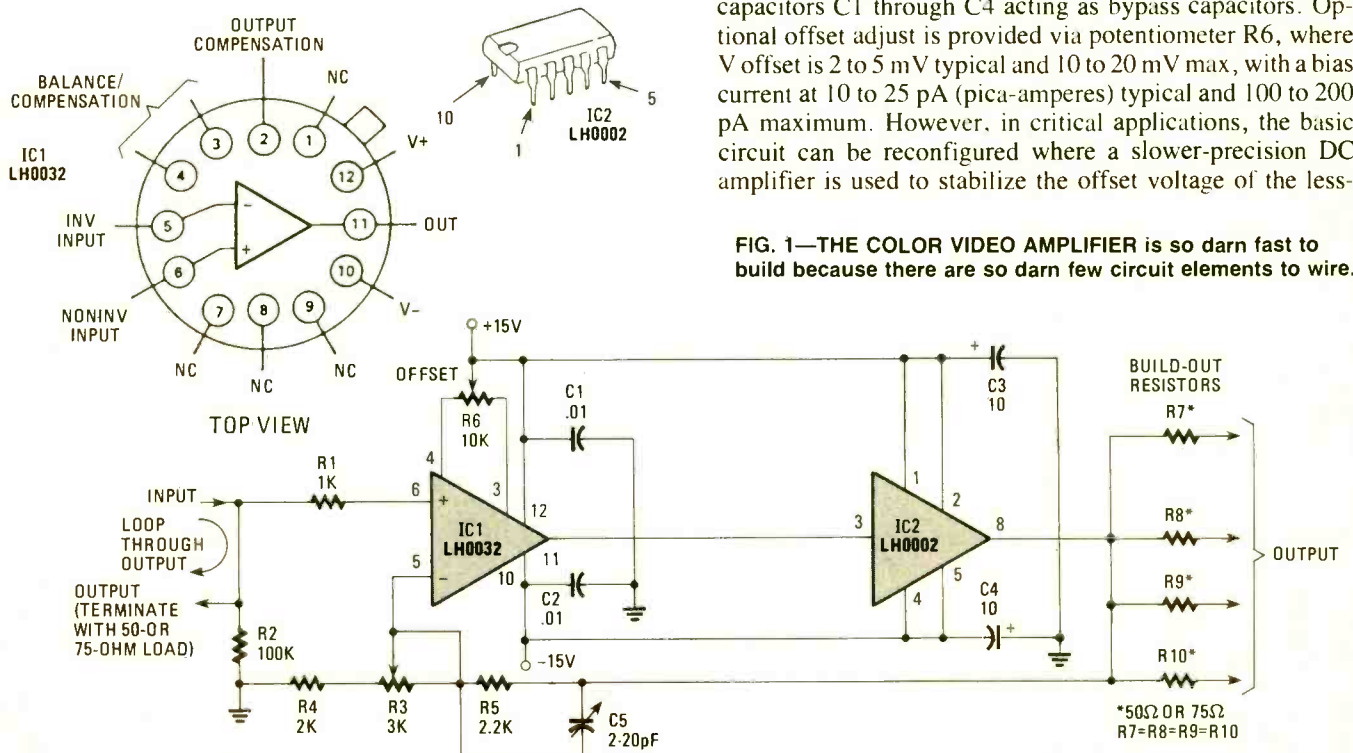

FIG. 1—THE COLOR VIDEO AMPLIFIER is so darn fast to build because there are so darn few circuit elements to wire.
THE DISTRIBUTION AMPLIFIER (DA) CIRCUIT IN FIG. 1 IS usable with high resolution, color-graphic systems, digitizers, color cameras, color systems, VTR's, etc., where slew can be made high enough for some of the most demanding applications, let alone passing a 1-volt 4-MHz bandwidth video signal. And, the DA circuit will do better than many comparable high-priced commercial DA's costing several times the parts cost of this simple project. However, the same basic design may be reduced in cost farther for use in black-and-white systems by selection of IC1. More on that in a moment.
Combining an ultrafast LH0032 FET op amp, IC1, with an LH0002 current amplifier, IC2, we have a high-impedance input, low-impedance output DA. See Fig. 1. The high-impedance front end allows signals to be looped through or terminated by their characteristic impedance, which is typi-